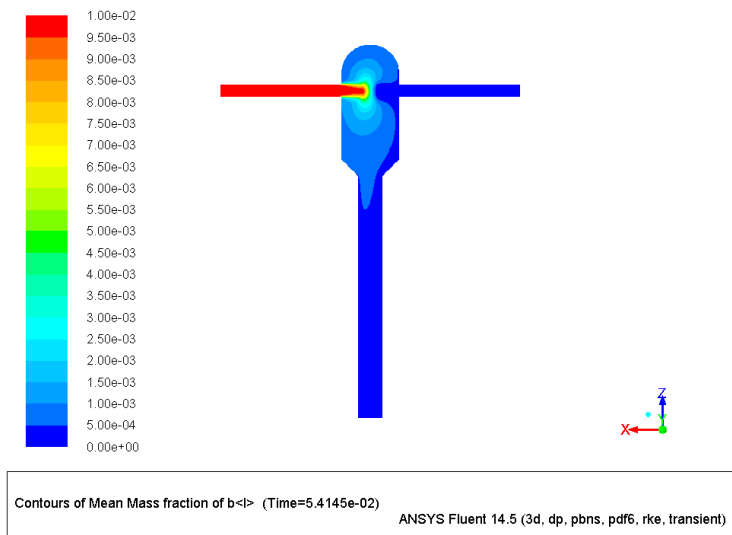

Figure 14: Contours of Mean Mass Fraction of b<|>
- (c) Similarly display the contours of mass fraction of b<|> and d<|> species. Refer to Figures 14 and 15.